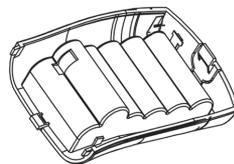

Figure 2
2. Insert the battery pack. See Figure 2.